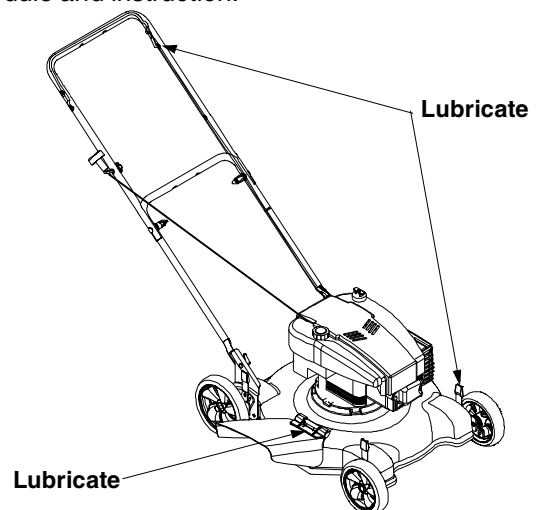

Figure 11
- Lubricate the pivot points on the blade control handle at least once a season with light oil. The blade control must operate freely in both directions. See Figure 11.